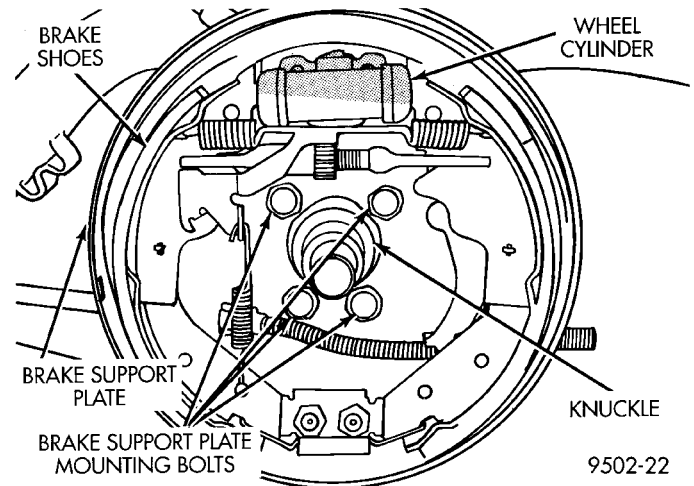

Fig. 15 Drum Brake Support Plate Mounting Bolts
(7) If vehicle is equipped with rear drum brakes remove the 4 bolts (Fig. 15) attaching rear brake support plate to knuckle. Then remove brake support plate, brake shoes and wheel cylinder as an assembly from rear knuckle (Fig. 15). **It is not necessary to remove brake flex hose from wheel cylinder when removing support plate.** Brake support plate when removed, must be supported in same manner as caliper assembly.
(6) On vehicles equipped with rear drum brakes, install rear brake support plate assembly onto the knuckle (Fig. 15). Install the 4 bolts (Fig. 15) attaching rear brake support plate to rear knuckle. Torque attaching bolts to 68 N·m (50 ft. lbs.).